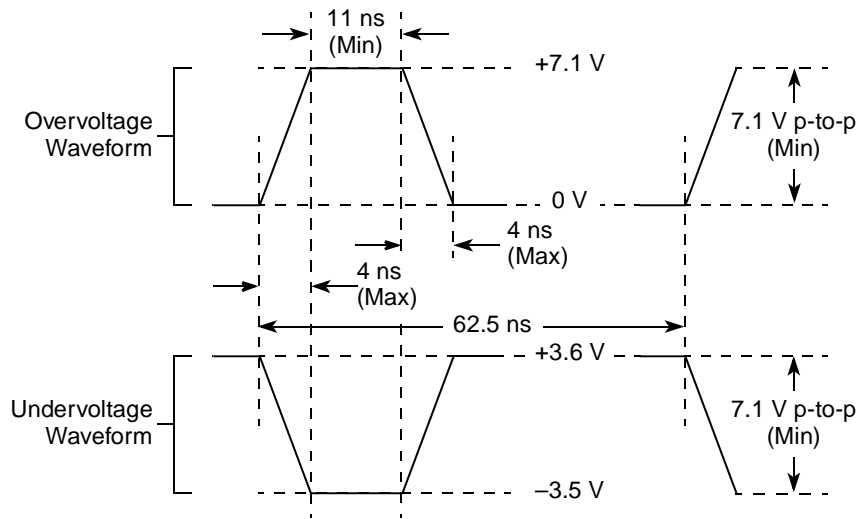

Figure 3. Maximum AC Waveforms on PCI Interface for 3.3-V Signaling
- $OV_{IN}$  on the PCI interface may overshoot/undershoot according to the PCI Electrical Specification for 3.3-V operation, as shown in Figure 3.
Figure 3 shows the undershoot and overshoot voltage of the PCI interface of the MPC8323E for the 3.3-V signals, respectively.